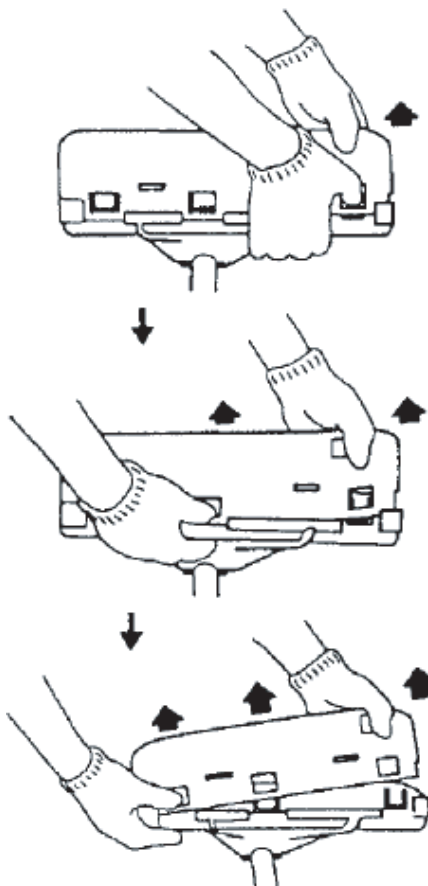

Fig. 13
- To remove the guard extension, refer to the drawings. Wear gloves as the extension has a sharp line limiter, then push the four square tabs on the guard one by one in order. (Fig. 13)